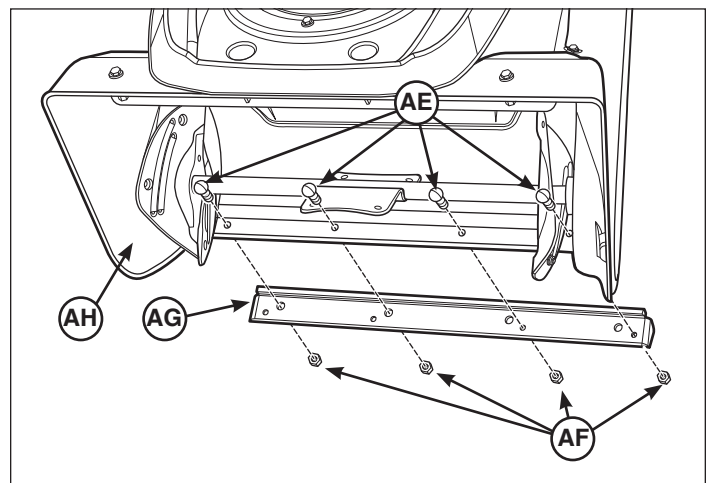

Figure 3
3. Remove the four screws (**AE**, Figure 3) and nuts (**AF**) securing the existing scraper bar (**AG**) to the snow thrower housing (**AH**).